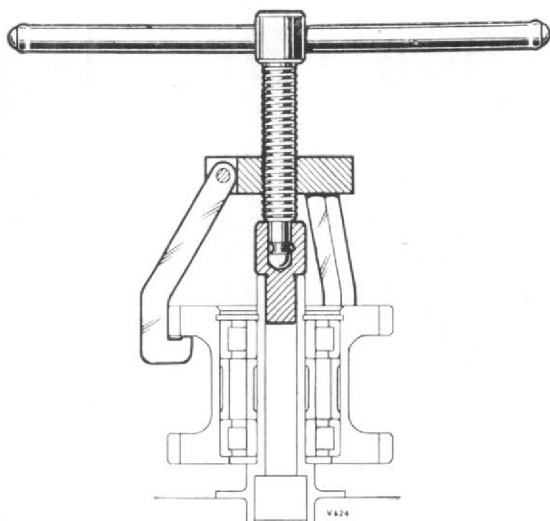

Fig. 13. Extractor T.77677 for removing the idler gear, outer roller bearing, spacers, and inner roller race off the gear.
T.77677 in the bore of the gear spindle and engage the three claws under the outer gear web clear of the teeth, Fig. 13. Turn the tommy bar of the extractor in a clockwise direction and draw the idler gear, outer roller bearing, spacers and inner roller race off the gear spindle.